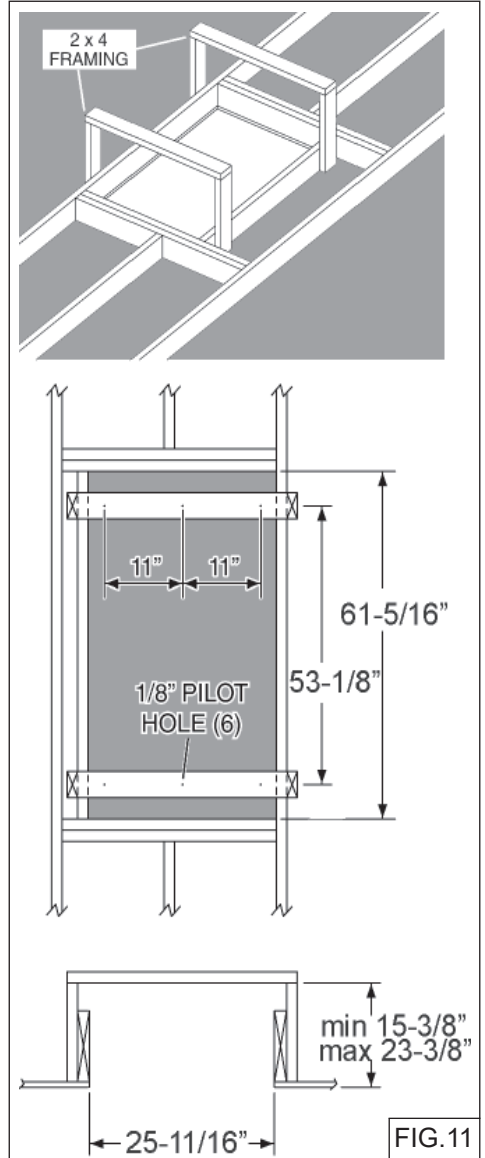

FIG. 11
1. Construct a wood framing system as shown in Fig. 11.